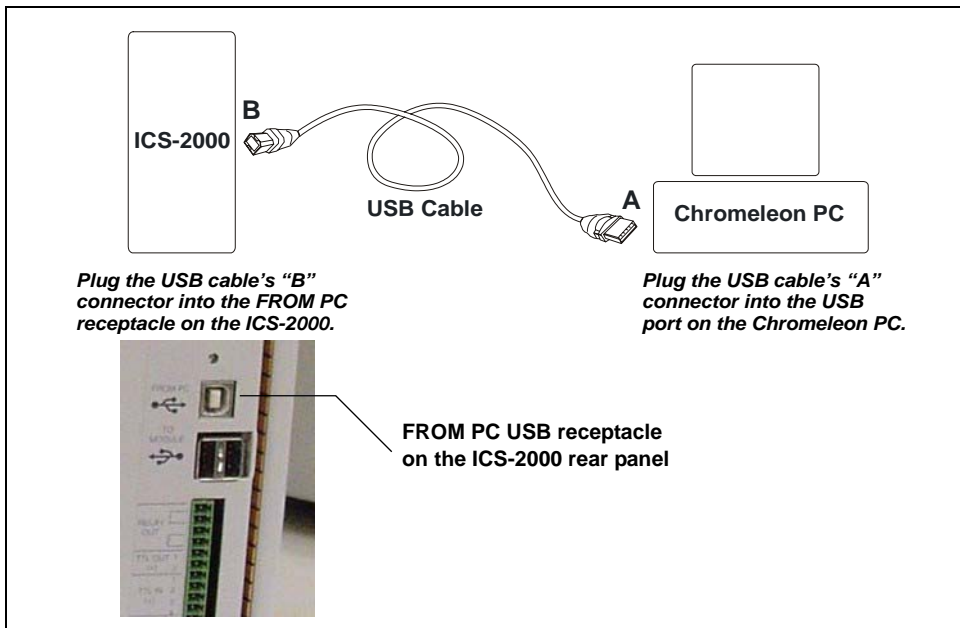

Figure B-9. Example Connections: One ICS-2000 Connected to the Computer
2. Plug the cable's "A" connector into a USB port on the Chromeleon PC and plug the cable's "B" connector into the USB receptacle (labeled **FROM PC**) on the ICS-2000 rear panel (see Figure B-9).